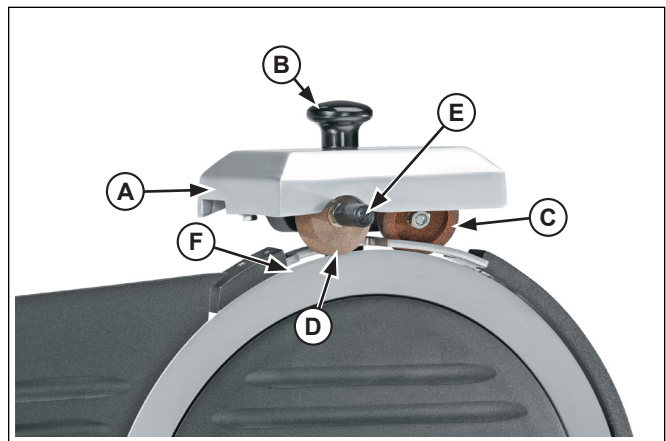

Figure 7. Sharpening Assembly and Blade, in Sharpen Position
2. Turn the indexing control (G) to the "0" position.
3. Clean the blade (E) following the *Cleaning and Sanitizing Section* of this manual.
4. Use the knob (B) to lift the sharpener head (A) and rotate it 180° to the sharpen position. See Figure 7.
7. At the end of the 30 second sharpening cycle, and push the de-burring stone button (E) to gently push the stone (D) against the blade (F), for approximately 2 seconds. See Figure 7.